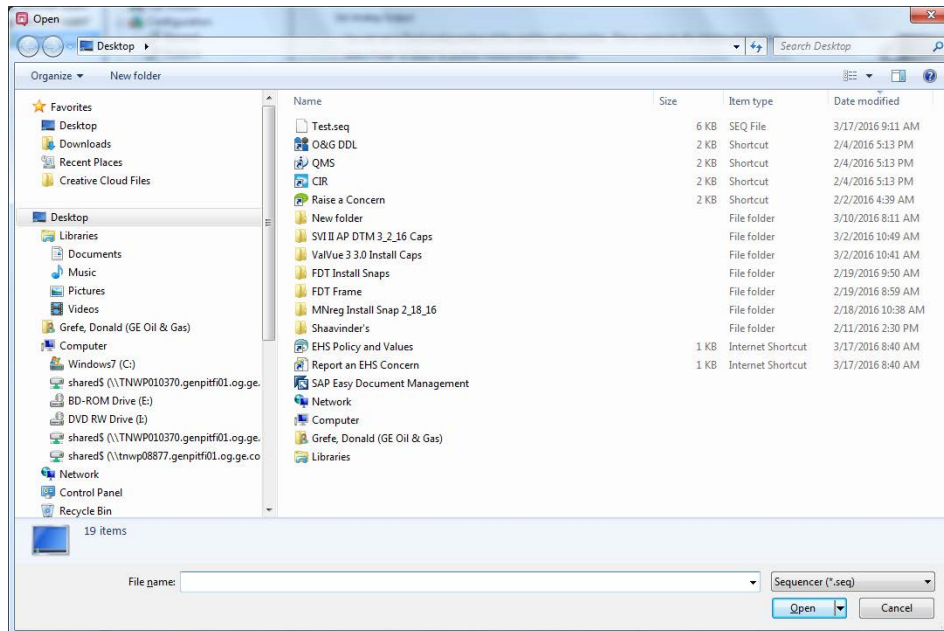

Figure 104 Open a .seq File
2. Click  and Figure 104 appears.